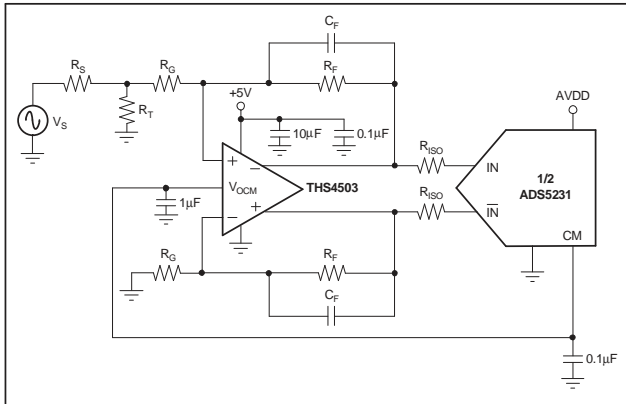

Figure 20. Using the THS4503 with the ADS5231
Applications that have a requirement for DC-coupling a differential amplifier, such as the **THS4503**, can be used to drive the ADS5231; this design is shown in **Figure 20**. The THS4503 amplifier easily allows a single-ended to differential conversion, which reduces component cost.
In addition, the V_{OCM} pin on the THS4503 can be directly tied to the common-mode pin (CM) of the ADS5231 to set up the necessary bias voltage for the converter inputs. In the circuit example shown in **Figure 20**, the THS4503 is configured for unity gain. If required, a higher gain can easily be achieved as well by adding small capacitors (such as 10pF) in parallel with the feedback resistors to create a low-pass filter. Since the THS4503 is driving a capacitive load, small series resistors in the output ensure stable operation. Further details of this and the overall operation of the THS4503 may be found in its product data sheet (available for download at www.ti.com). In general, differential amplifiers provide a high-performance driver solution for baseband applications, and other differential amplifier models may be selected depending on the system requirements.